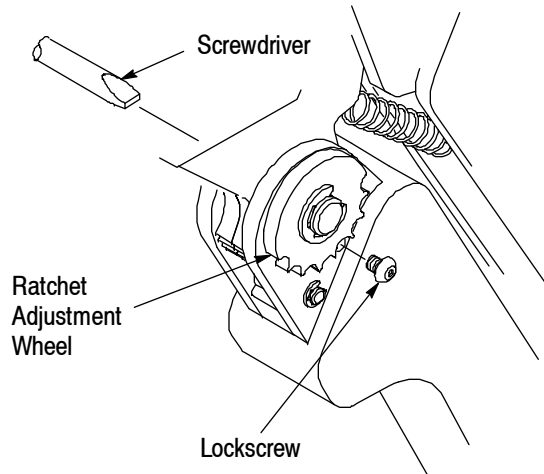

Figure 6
**4.3. Ratchet Adjustment** (Figure 6)